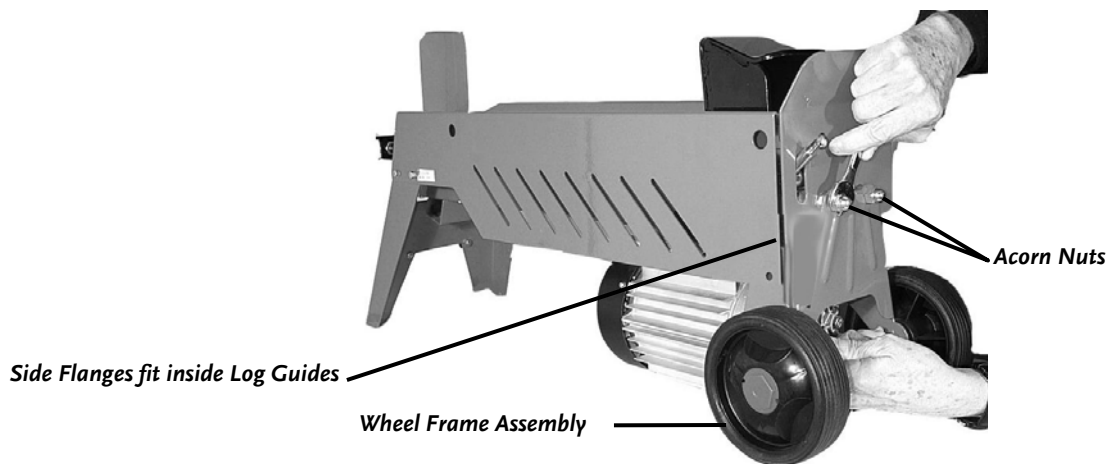

Figure 3
6. Attach the Wheel Frame Assembly to the main frame using the two Acorn nuts and the 16mm wrench (**Figure 3**).
**NOTE:** The Side Flanges of the Wheel Frame Assembly fit inside the Log Guides (**Figure 3**).